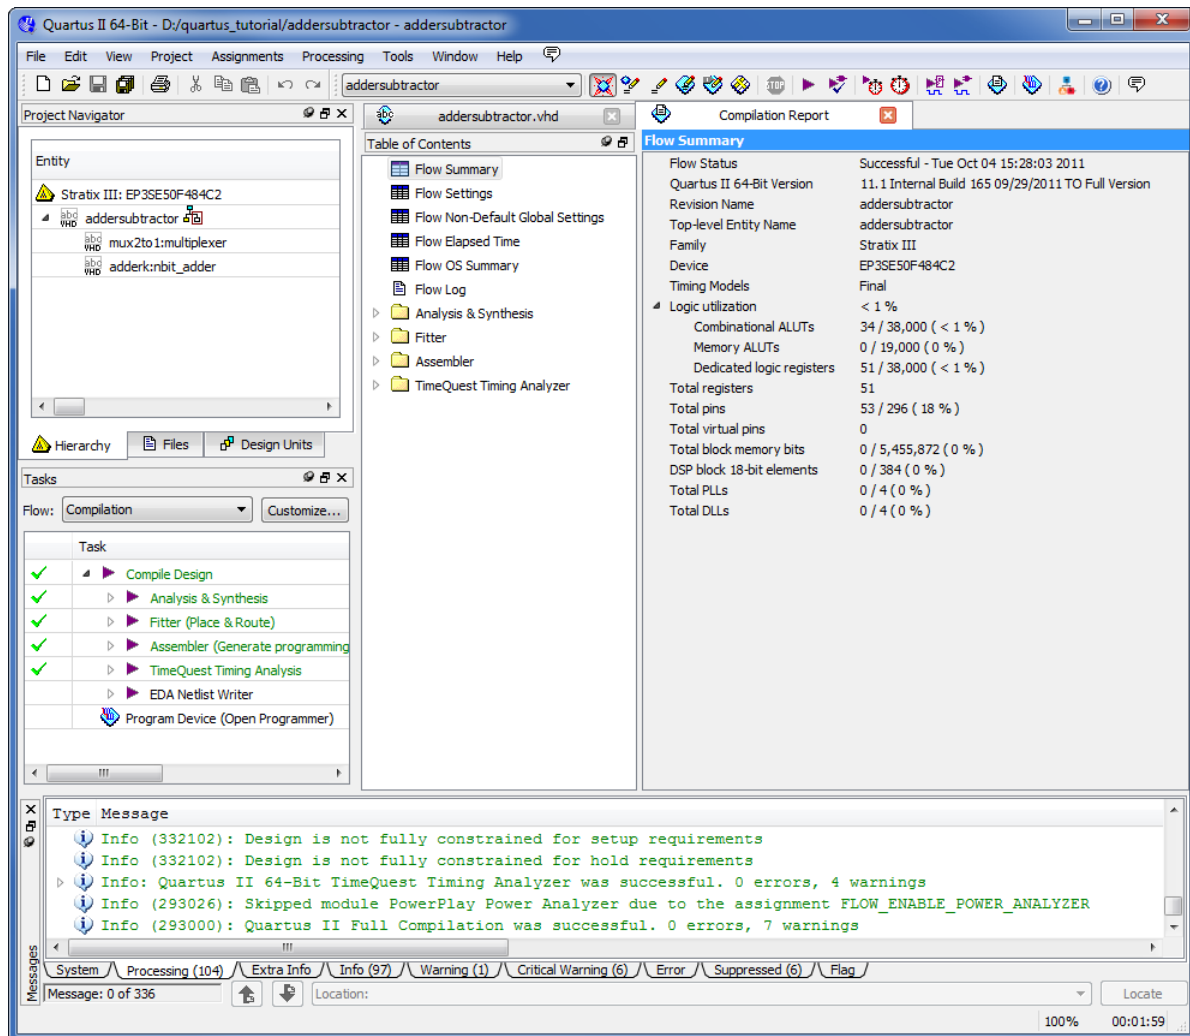

Figure 40: The main Quartus® II display.
The Quartus® II display contains several utility windows which can be positioned in various places on the screen, changed in size, or closed. In Figure 19, which is reproduced in Figure 40, there are five windows.
1. To see the usefulness of this window, open the previously compiled project *quartus_tutorial\addersubtractor.qpf* to get a window similar to Figure 40.